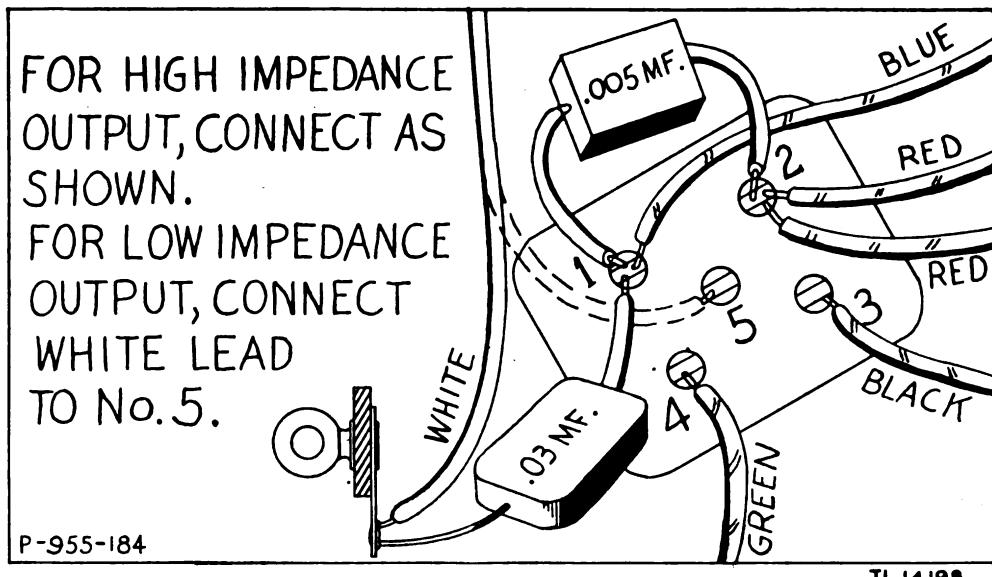

Figure 54. Radio Receiver and Transmitter BC-659-J, circuit label of output transformer.
b. In Radio Receiver BC-659-J, capacitor C72 has been changed in value from 0.01 microfarad ( $\mu$ f), 500 volts direct current to 0.03  $\mu$ f, 500 volts direct current. Output transformer T6 has been changed to provide an extra impedance-matching tap to accomodate a 250-ohm load in addition to the 4,000-ohm load. The circuit label is shown in figure 54.